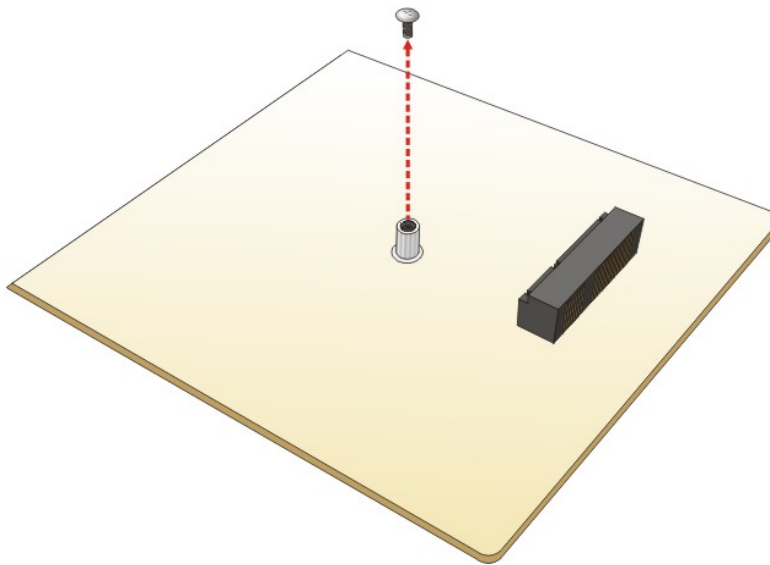

Figure 4-5: Removing the Retention Screw for the iRIS-1010 Module
- Step 2:** Remove the retention screw. Remove the retention screw as shown in **Figure 4-5**.